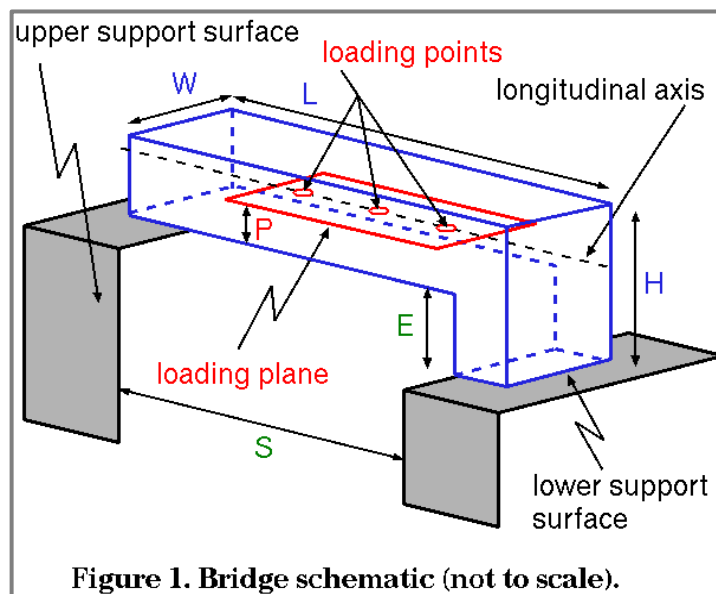

Figure 1
- The bridge shall rest on two support surfaces separated in elevation (**E**) by 10. mm and horizontally by a gap (**S**) of 300. mm (see **Figure 1**).
- The bridge (see **Figure 1**) must span a gap (**S**) of 300. mm, be no longer (**L**) than 400. mm, no wider (**W**) than 80. mm, and no taller (**H**) than 150. mm above the **lower** support surface. No part of the bridge may extend below the lower support surface.
- The bridge must be constructed to provide a horizontal support for the loading plate (see **section 3b**) at each of the three loading locations: in the center of the 300. mm span and 50. mm to either side of the center (see **Figure 1**). The three loading locations must lie in the same horizontal loading plane a distance (**P**) of 10. to 50. mm above the upper support surface.